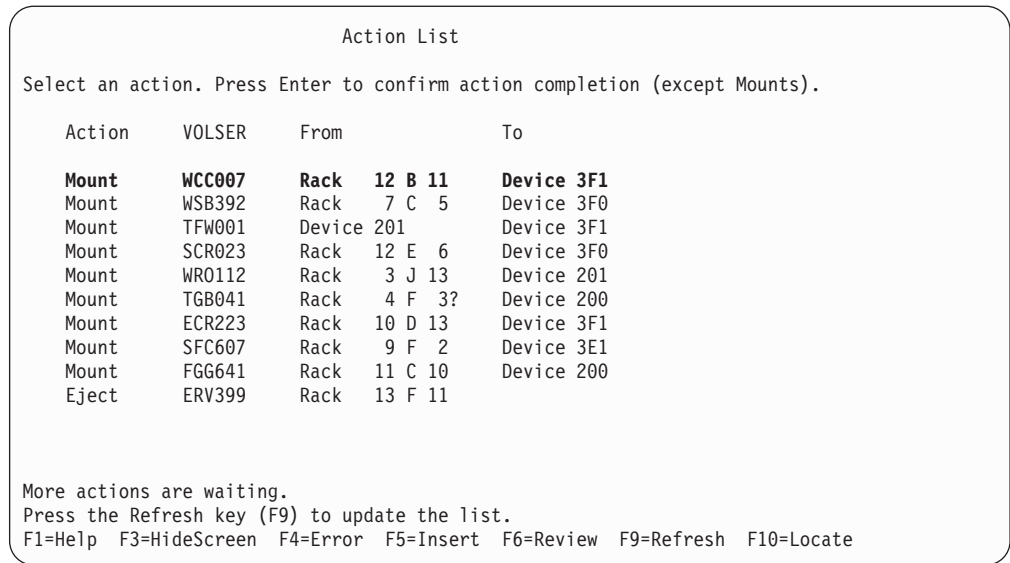

Figure 218. Manual Mode Terminal Window with Action List
Typical actions include physical cartridge mounts, demounts, and ejects (removing cartridges from the 3494). A sample window with pending actions is shown in Figure 218 on page 323.
Figure 218 on page 323 shows the Manual Mode Terminal window with the Action List.
The Action List presents tasks to perform. Perform the actions in the sequence listed (see Figure 218). Read the following Mount, Demount, Insert, and Eject procedures for how to perform each action.
1. Select mounts in the order shown on the Action List (Figure 218 on page 323). The mounts are listed in order of priority with the highest priority at the top.
1. Press the **Insert** key (**F5**) on the Action List of the Library Manager (see Figure 218 on page 323).